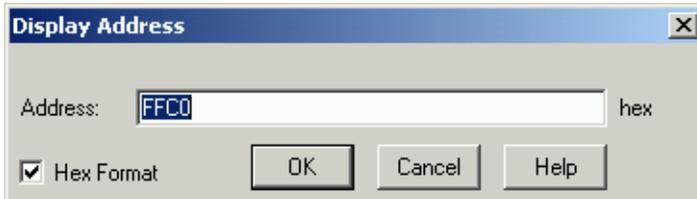

Figure 10. Debugger Display Address Window
23. Type in FFC0 and click OK. (Figure 10)